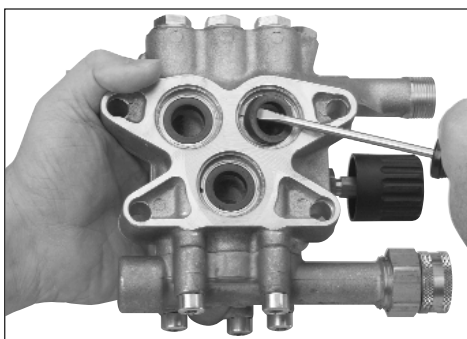

figure 13
3. Carefully remove the 3 high-pressure seals. (figure 13)